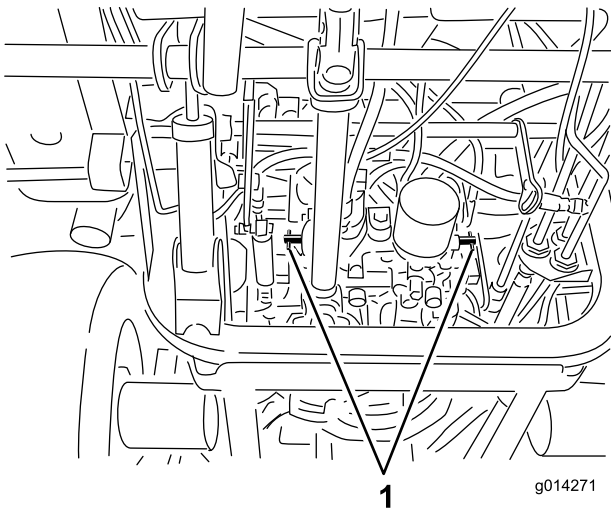

Figure 44
4. Rotate each bypass valve counterclockwise 1 turn (Figure 44).
Rotate each bypass valve clockwise 1 turn and hand tighten them. Torque them to approximately 8 N·m (71 in-lb); refer to Figure 44.